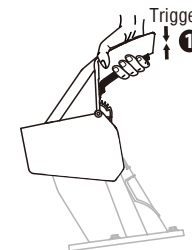
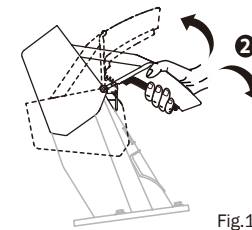

Fig.11A
Fig.11B
1. To increase the distance that the snow is thrown, squeeze the trigger on the chute-deflector handle, and then raise the chute deflector. Release the trigger on the chute deflector handle to lock the chute deflector in 55° (Fig.11A/ Fig.11B).
2. To decrease the distance that the snow is thrown, simply lower the deflector with the chute-deflector handle. Release the trigger on the chute deflector handle to lock the chute deflector in -5° (Fig.11B)